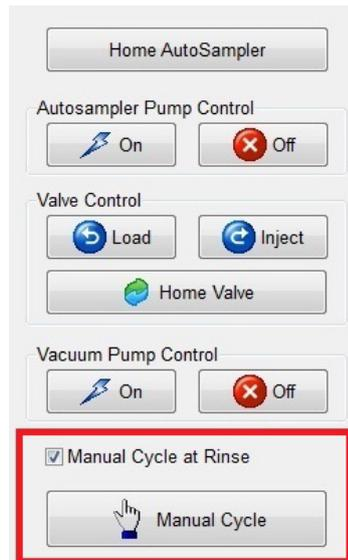

Figure A-27. Manual Cycle
10. When using the external Sprint Valve Configurator, check for any leaks using the **Manual Cycle** function. See Figure A-27.